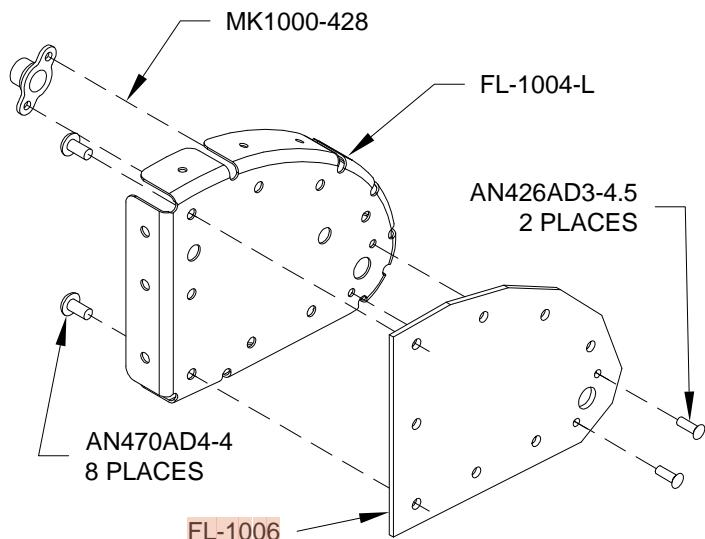

FIGURE 1: OUTBOARD ROD END RIB SUBASSEMBLY
Step 6: Deburr and dimple the holes in the skins (be sure to dimple the correct side), ribs, and spar. Note: The holes in the skins that will receive MK-319-BS blind rivets will be final-drilled in assembly to #33 (0.113 in.) later. For now dimple them just as you would to receive AN426 rivets. See Page 22-9, Figures 1, 2 and 4 for their locations.
Step 1: Rivet the outboard rod end rib subassembly together using the rivets called out in Figure 1.